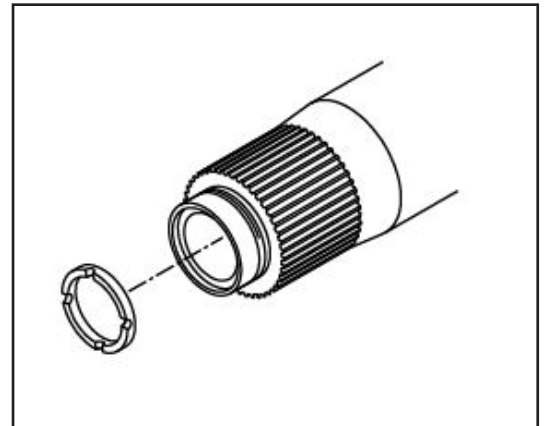

Figure 5
- Assembly of the spacer ring, see Figure 5.